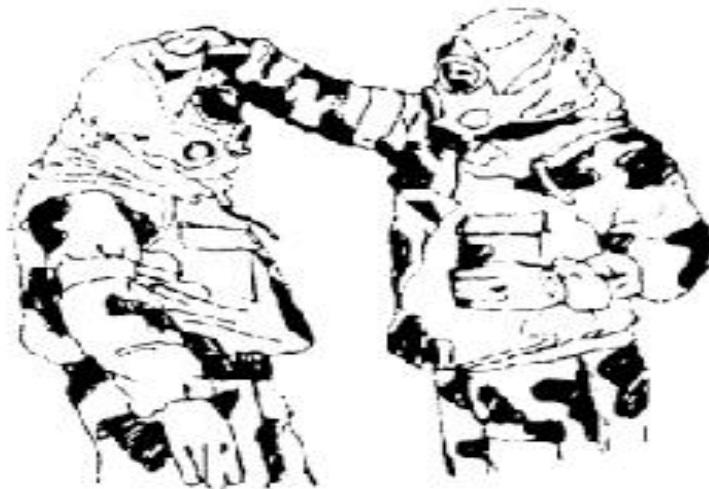

Figure E-87. Decontaminating the hood.
3. Decontaminate the hood and mask for chemical and biological contamination (figure E-87).